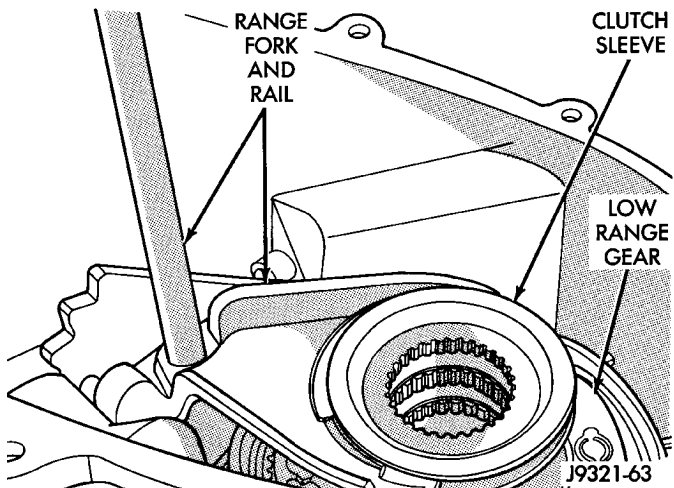

Fig. 62 Range Fork And Clutch Sleeve Installation
(5) Install assembled range fork and clutch sleeve (Fig. 62).
(6) Insert range fork pin in sector. Then rotate sector and seat clutch gear in low range gear.